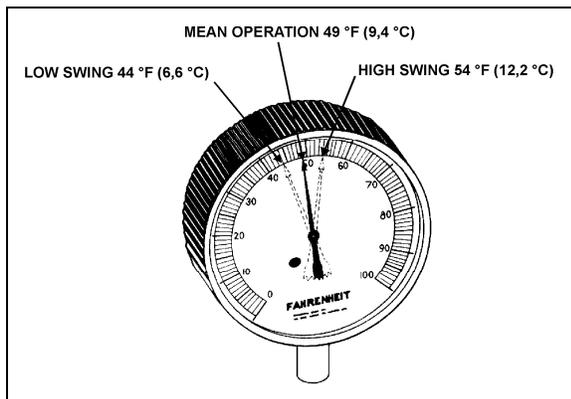

FIGURE 36: HIGH & LOW SWING TEMPERATURE AT REMOTE BULB 22047
6. Check approximately 5 readings of pressure at 2-minute intervals and convert to temperature using the temperatures & pressures table (page 35). Likewise check the temperature reading at the remote bulb at the same 2-minute intervals and record the low and high swing readings of the needle (refer to Fig. 36).
Example of readings taken at fig. 36: